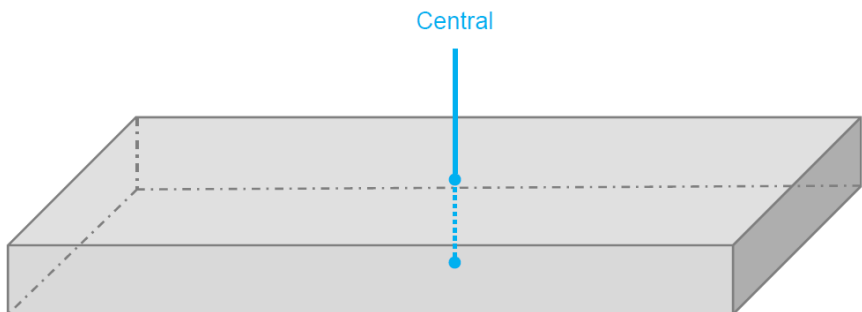

Figure 10. Central length only calibration is taken at the centre of the gauge block.
- **Central length only calibration** is when a measurement is taken at the centre of the measuring face of the gauge block and at no other area of the gauge block (as seen in Figure 10). This method is preferred when interferometry will also be used as it saves time.